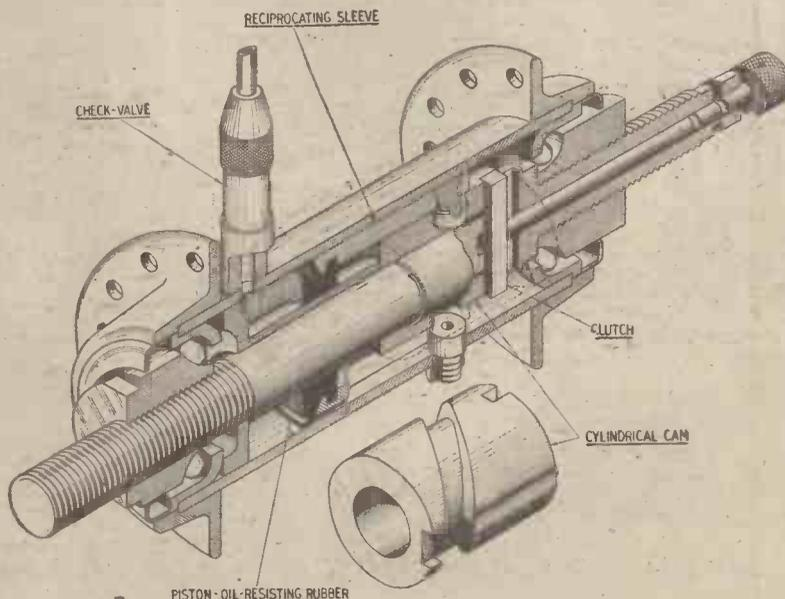

Fig. 2.—Sectional view of the "Cyclair" automatic cycle pump, and detail of operating cam.
**T**HE working of the "Cyclair" Pump Hub can be readily understood by reference to the cut-away drawing, Fig. 2, in which the parts are named. In addition to the parts found in any normal hub there are only three main components; a sleeve, a piston and a cam. The hub shell is used as the pump cylinder, and a tubular piston slides from end to end, between the shell and an inner sleeve. The sleeve surrounds the spindle for about half its length but is quite clear of it.